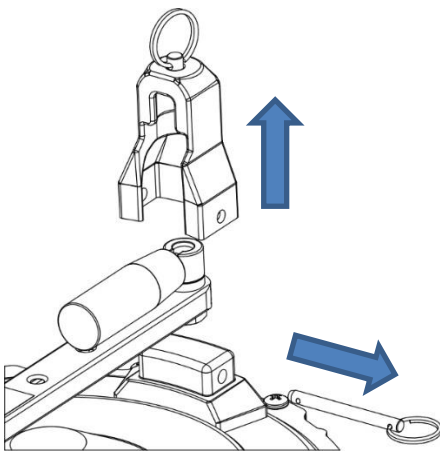

Figure 2
1. Remove side handle cap pin with label indicating "PULL THIS PIN FIRST". Remove handle cap with label indicating "PULL THIS PIN SECOND". See figure 2.